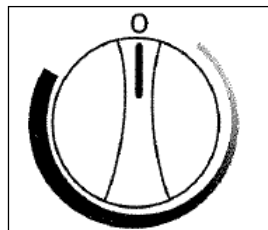

Fig. 2
- To turn off the beverage center (no cooling) rotate the control knob to the "0" (off) position. **See Fig. 2.** Turn the control to the "OFF" (0) position to temporarily disconnect the cooling cycle. When the beverage center is not to be used for long periods of time, disconnect from power and leave the door partially open.